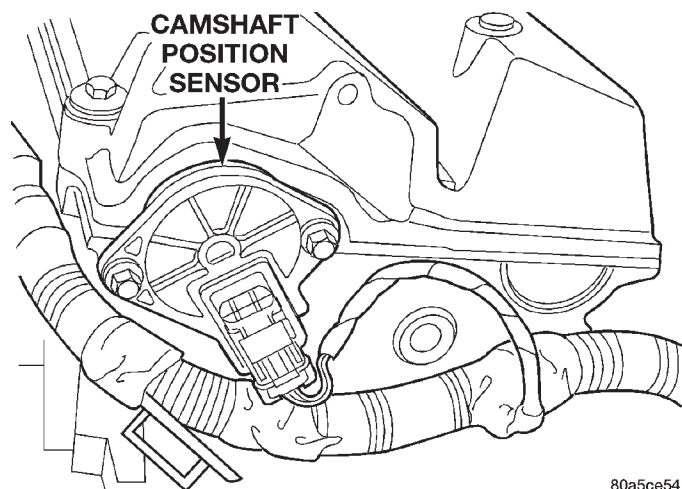

Fig. 45 Camshaft Position Sensor—2.4L Engine
(14) Check electrical connections at the camshaft position sensor (Fig. 45).